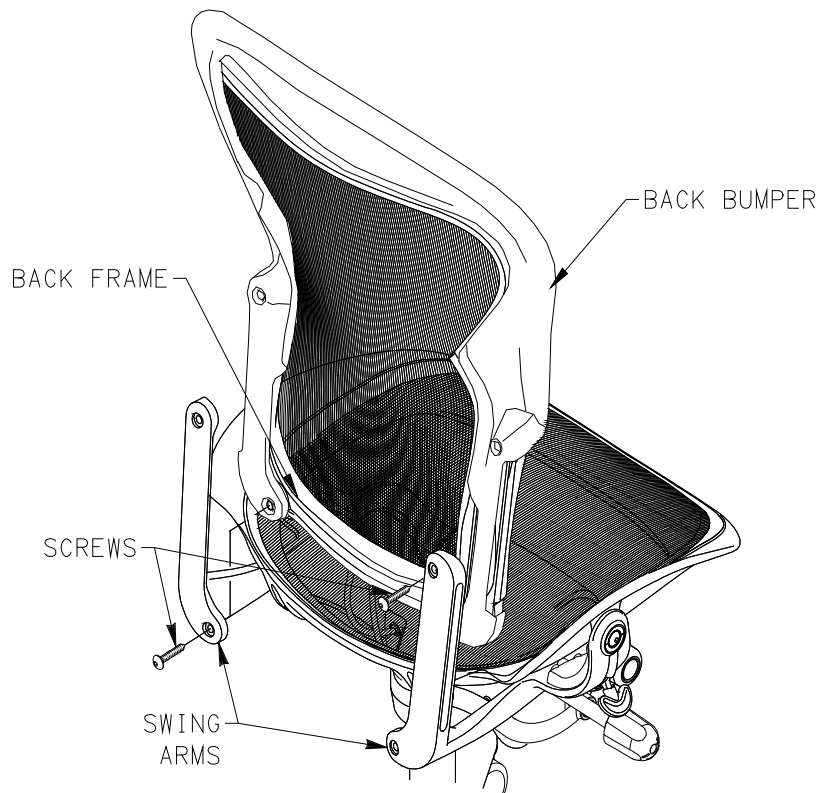

FIGURE 4
4. PLACE BACK FRAME WITH BACK BUMPER UP TO SWING ARMS ALIGNING HOLES. SECURE WITH SCREWS. TIGHTEN AND TORQUE SCREWS TO 70-100 IN-LB. SEE FIGURE 4.